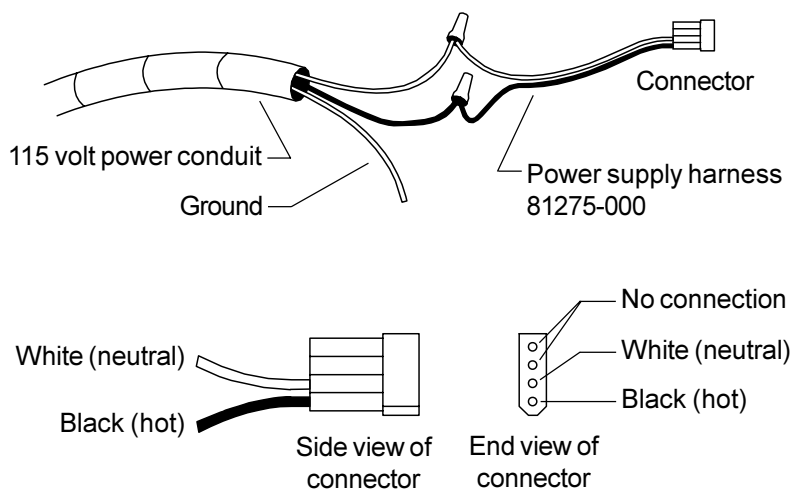

Figure 4-1
- 4.1. Connect the 115 volt power hot and neutral wires to the power supply wire harness 81275-000 as shown in Figure 4-1.